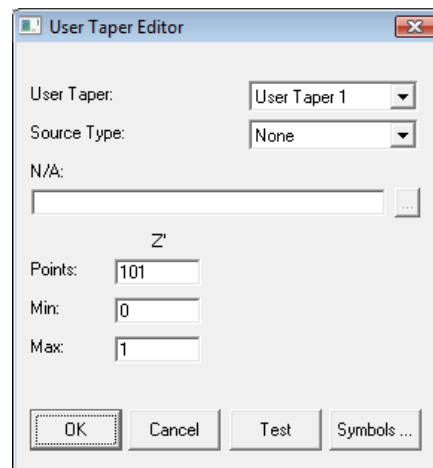

Figure 6-4: The User Taper Editor where User Tapers are defined.
To define a taper via a mathematical expression, set the **Source Type** option shown in Fig. 6-4 to *Expression*. When $f(z')$ is defined as an expression, several options exist which allow for further customization of the taper.
To define a taper via a data file, set the **Source Type** option shown in Fig. 6-4 to Data File. When a data file is used to define the function $f(z')$, the variable z' is given by (9), and is defined over the range given in the data file. For more information on the use of a data file, see the example in the next section. Also, the data file can be dynamically loaded at run time by entering the filename as $\$name$ and setting the variable `name` to the actual filename of the profile.